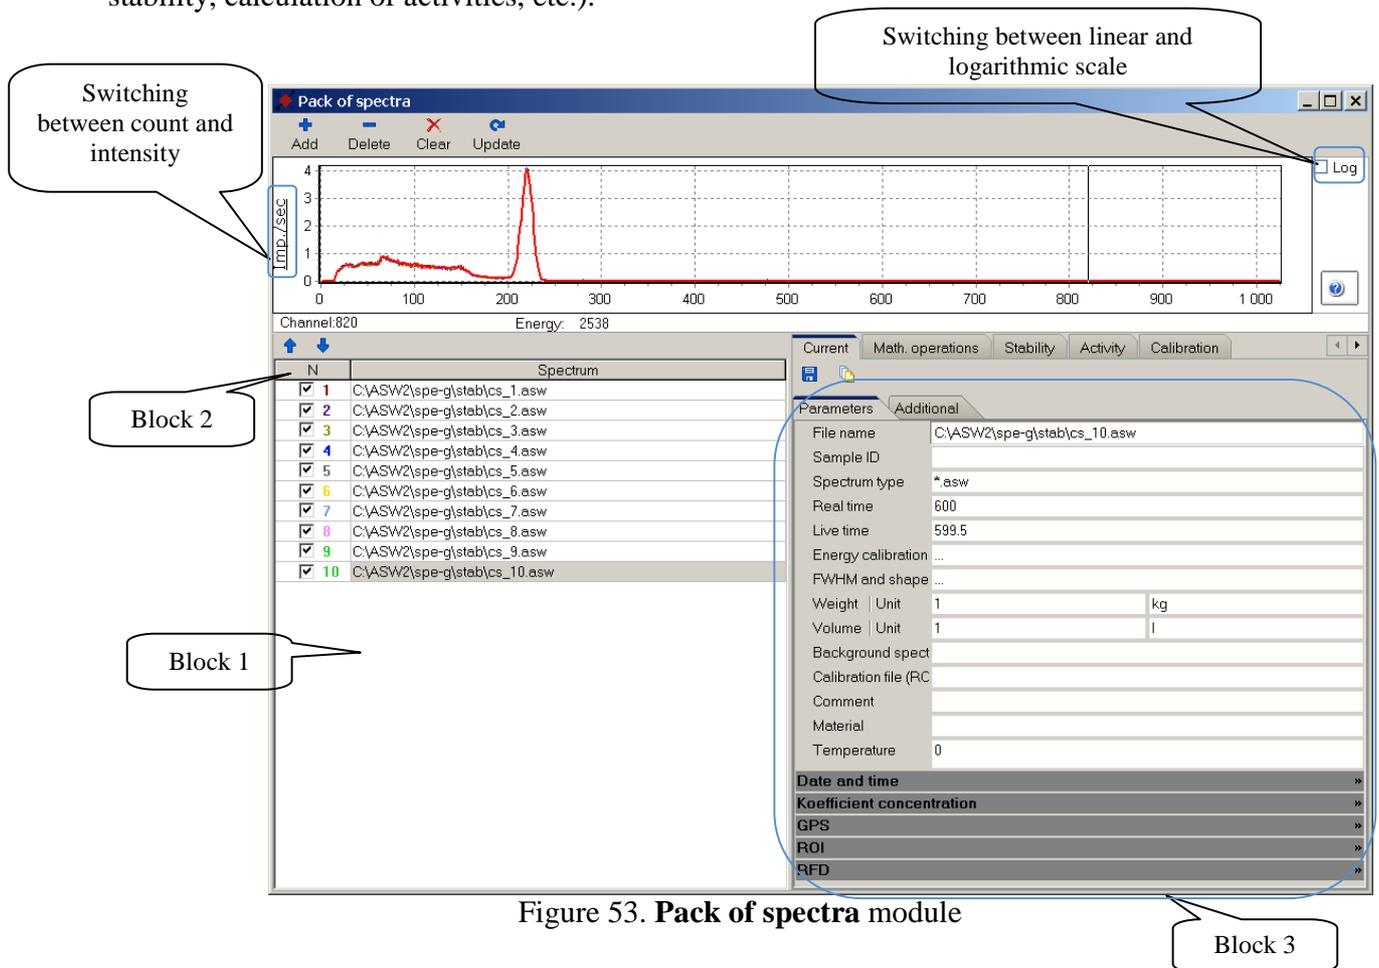

Figure 53. Pack of spectra module
The **Pack of spectra** module consists of three main blocks and a menu (Fig.53).
The **Current** tab (see Fig.53) displays all the information about parameters of the last selected spectrum in the table (block 1). The list of parameters on the **Parameters** and **Additional** tabs fully duplicates the list provided on the “**Spectrum parameters**” tab (see Fig.20 and Fig.36) when you work with the spectrum window.
- select the spectra intended for summing in the main table (Fig.53, block 1);